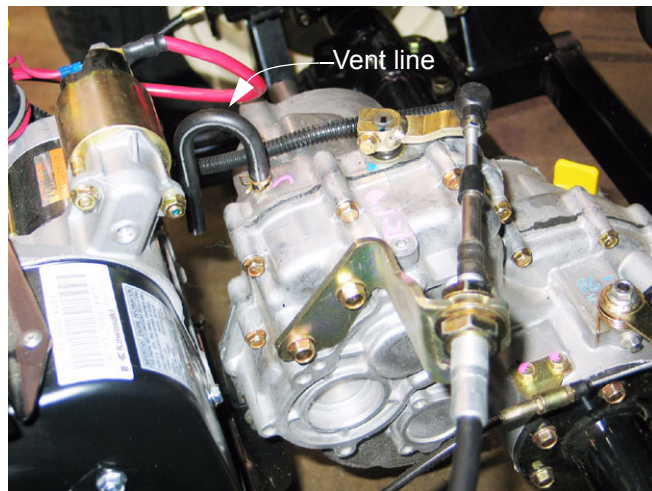

Figure 2.9
- 2.9. A blocked vent can provoke oil leaks. The vent is located at the top of the transaxle housing. See Figure 2.9.